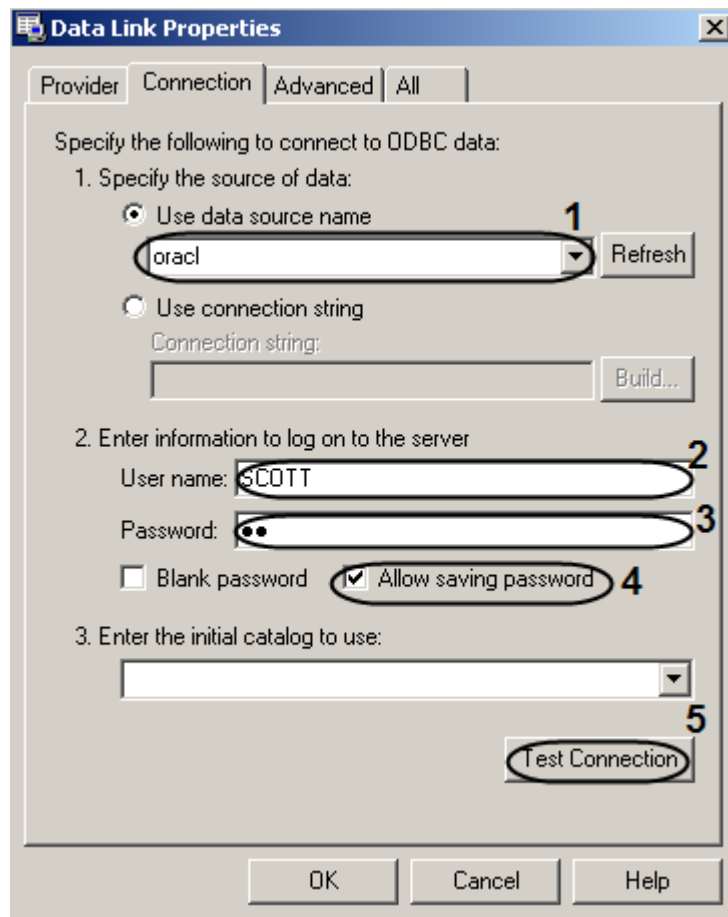

Fig. 7.6—4 Oracle database connection
- 5.3.4. In the «User name» (Fig. 7.6—4, 2) and «Password» (Fig. 7.6—4, 3) fields enter the user name and password to connect to the Oracle database server.